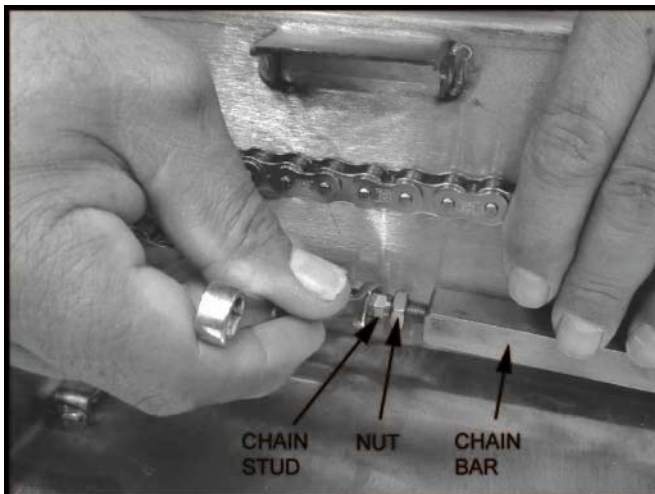

FIGURE 2-16: INSERT AND TIGHTEN CHAIN STUD WITH CHAIN BAR (LH SIDE SHOWN)
i. Refer to **Figure 2-16**. Insert chain stud into chain bar then turn chain stud clockwise to tighten.
j. Refer to **Figure 2-16**. Tighten stud to adjust stiffness on chain assembly.